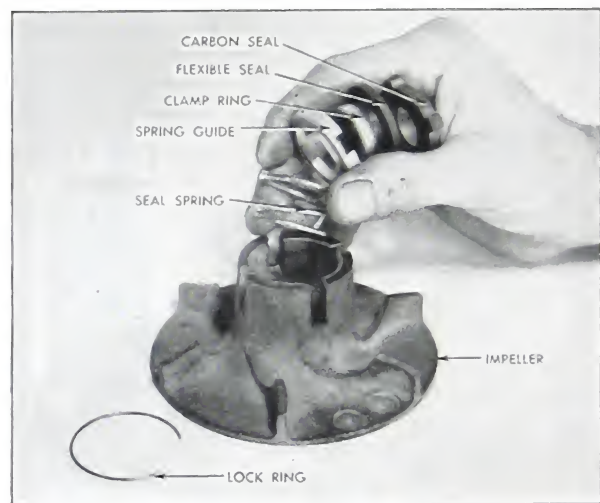

Fig. 8-10. Water pump shaft carbon seal
4. Assemble carbon seal assembly to impeller and secure in place with lock ring. (Fig. 8-10).